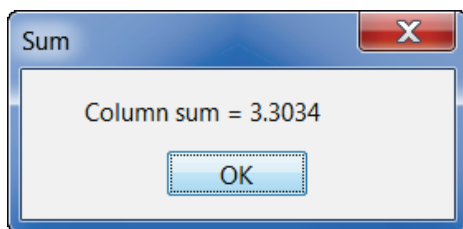

Figure 17.16 Sum Window
7. When the user chooses to **Sum Selected Cells** or **Sum Entire Column** from the shortcut menu, a **Sum** window will open (Figure 17.16) providing the user with the desired information.